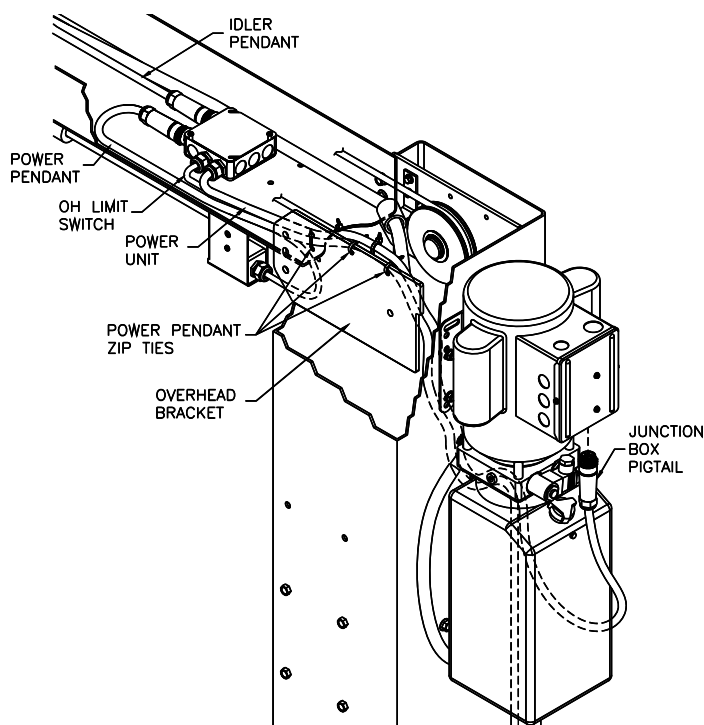

Fig. 25 – Junction Box Connections
- 67) Route both Pendant Switch cords up the column and through the "T-slot" in the back of the column extensions. Secure both pendant cords to the overhead bracket with wire ties, **Fig. 25**.
- 69) Route junction box pigtail through "T-slot" in back of Column Extension around to the front of the Power Unit. Insert plug into mating receptacle mounted to the bottom of the motor wiring box. Twist plug collar to lock in place, **Fig. 25**.